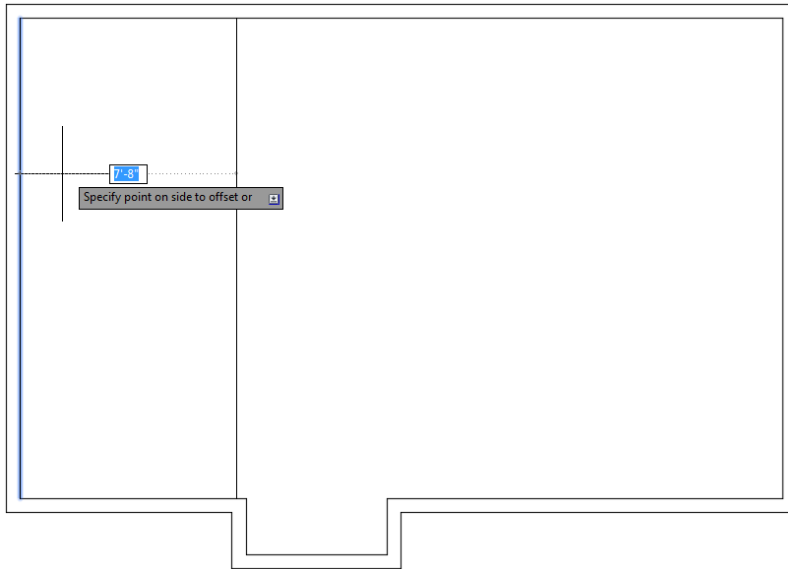

FIGURE 4.13: Selecting the wall line to offset
4. Click the inside line of the left exterior wall (see Figure 4.13).